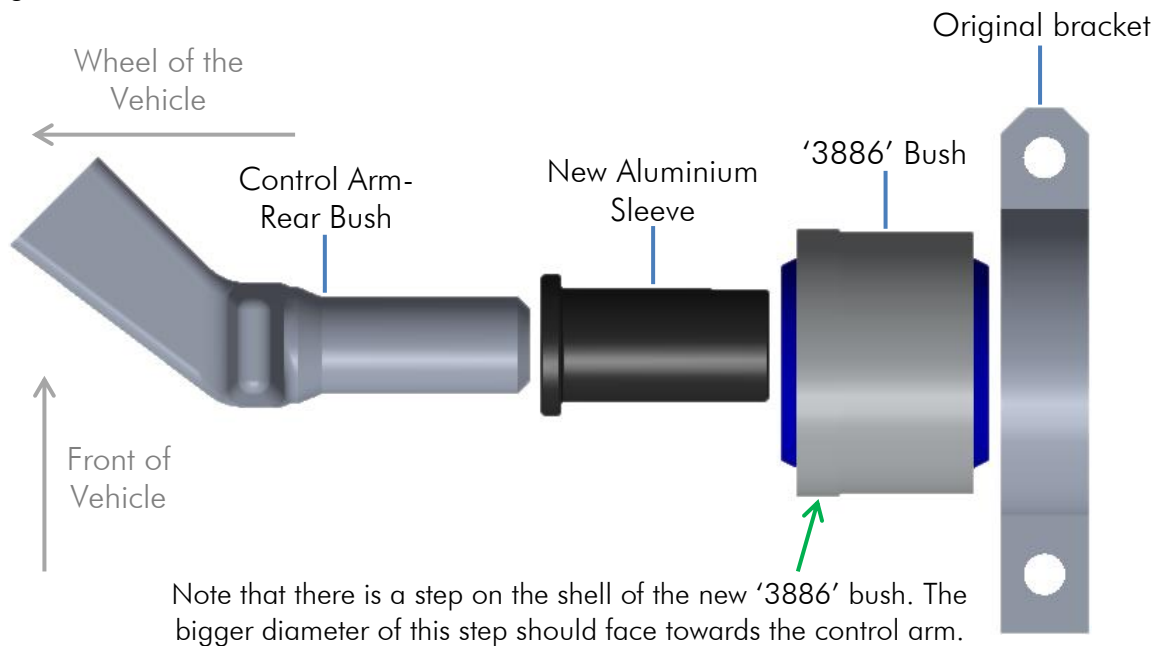
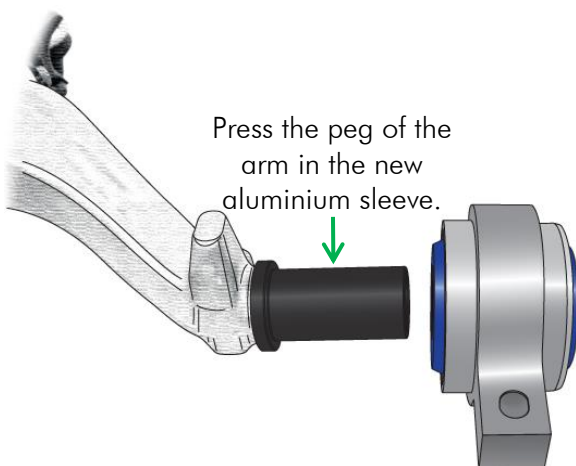
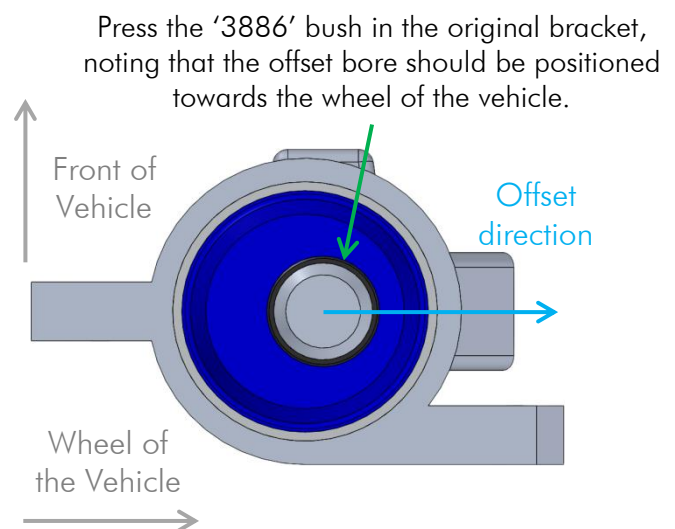

Figure 03 – LHS Control Arm Rear Bushing – Top View
Figure 04 – RHS Control Arm Rear Bushing
Figure 05 – RHS Control Arm Rear Bushing Offset direction – View from Rear of the vehicle
- Install the new aluminium sleeve to the control arm peg, Figure 03 and Figure 04;
- Press the new '3886' bush into the original brackets, noting that the step on the shell should face the control arm and the offset should be positioned towards the wheel. Press the bush plus bracket against the arm peg with the sleeve installed. See Figure 03, Figure 04 and Figure 05 for details;